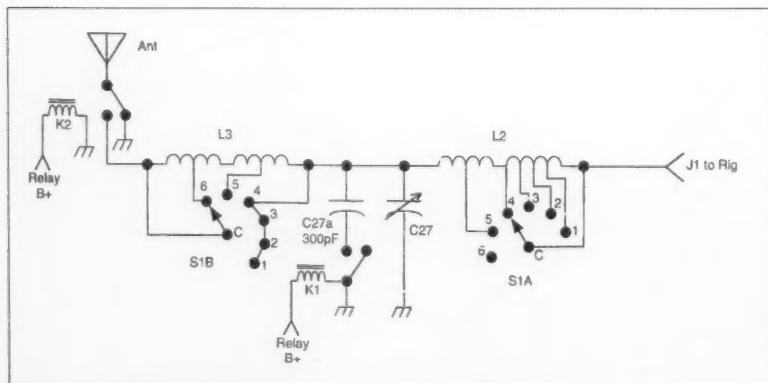

Fig. 2. New tuner schematic.
antenna system as described above. Refer to **Table 3** and **Figs. 2** and **3** for the schematic and wiring sequence. Also note that a DB25 female connector will be needed to mate with the DB25 male on the tuner to obtain switching feedback and motor control. The next steps will describe the process of modifying the tuner into a multiband L-network tuner. Note that the mounting plate will be used as the tuner ground throughout this project.
5. Refer to **Figs. 2** and **3** and **Table 2**. Connect the taps from L2 to each of the appropriate solder lugs of switch S1A as noted. The number of turns is counted from the left end of coil L2 closest to C27.
8. Connect one end of the loading inductor to the stator of C27 and to pins 1 through 4 of S1B as shown in **Fig. 2**.
11. For 160-meter operation, C27 has insufficient maximum capacitance for tuning, so you will need to add 300 pF of capacitance via C27a and K1 as shown in **Fig. 2**. Make sure that the capacitors used are the transmitting variety capable of withstanding high voltages (depending on your operating power). I run 100 watts and have found that I have no problems with 2500-volt caps.